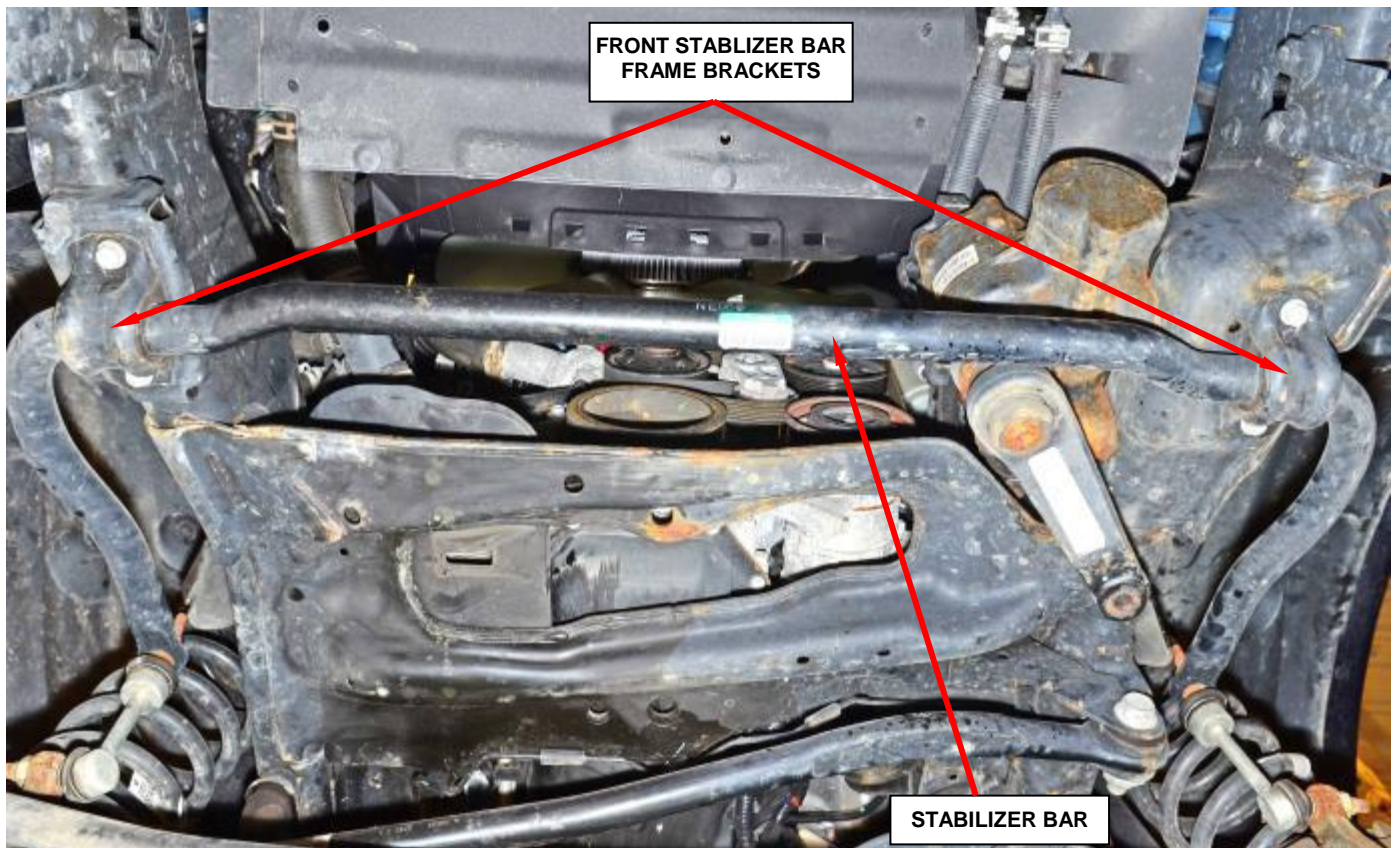

Figure 37 – Front Stabilizer Bar
17. Disconnect the front suspension stabilizer bar at the frame brackets (Figure 37).